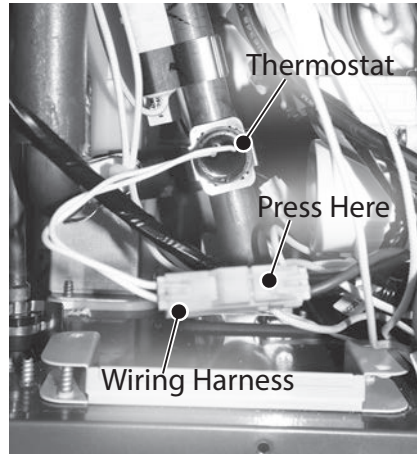

Figure 18 - Freeze protection thermostat location
- 4 Locate the freeze protection thermostat wiring harness as shown in Figure 18.
- 6 Disconnect the freeze protection thermostat wiring harness. See Figure 18.
NOTICE: Press in the location shown in Figure 18 to disconnect the wiring harness.
- 9 To install freeze protection thermostat to outlet water tube, gently push metal clamp onto tubing. The metal clamp will snap into place. Confirm thermostat sits flush against piping. See Figure 18.
- 10 Connect freeze protection thermostat to the wiring harness disconnected in **Step 6**. See Figure 18.